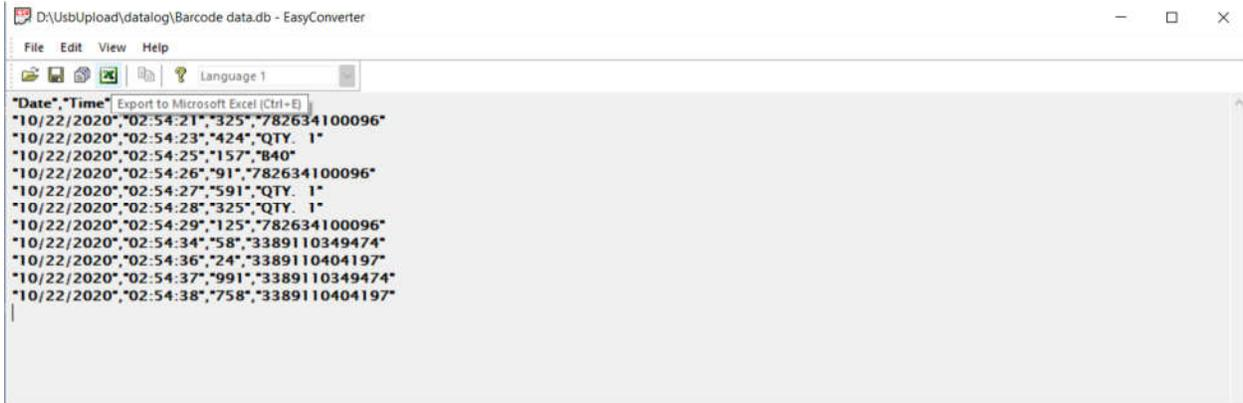

Fig. 31 Export to Excel
13. Now that the file is open in Easy Converter it is ready to be converted into a .csv file. To do this, click on the Excel icon at the top of the screen. This is labeled “Export to Microsoft Excel”. The location of this button is shown in fig. 31. For the conversion to be possible, Microsoft Excel must be installed on the PC.